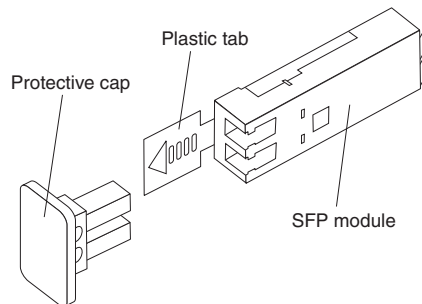

Figure 17. Small Form-Factor Pluggable (SFP) module
3. Remove the protective cap from the SFP module, as shown in Figure 17. Save the protective cap for future use.